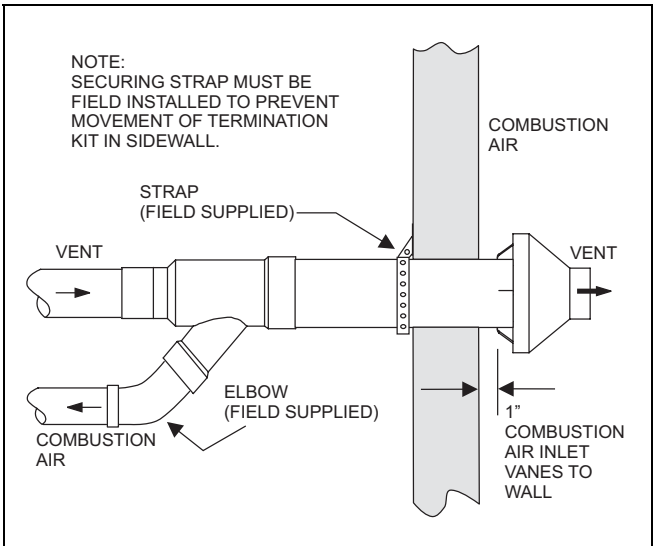

FIGURE 7 - Sidewall Termination Details for Concentric Vent
9. Secure assembly to structure as shown in Figure 7 using field supplied metal strapping or equivalent support material
NOTE: If assembly needs to be extended to allow side wall thickness requirement, the 2 pipes supplied in the kit may be replaced by using same diameter, field supplied SDR--26 PVC (D2241) pipe. Do not use Schedule 40 PVC or couplings to extend pipes. The additional wall thickness will restrict combustion air and may cause operational problems. Do not extend air inlet pipe more than 60 inches (Refer to Figure 7).
10. Cement furnace combustion air and vent pipes to concentric vent termination assembly. Refer to Figure 7 for proper pipe attachment.